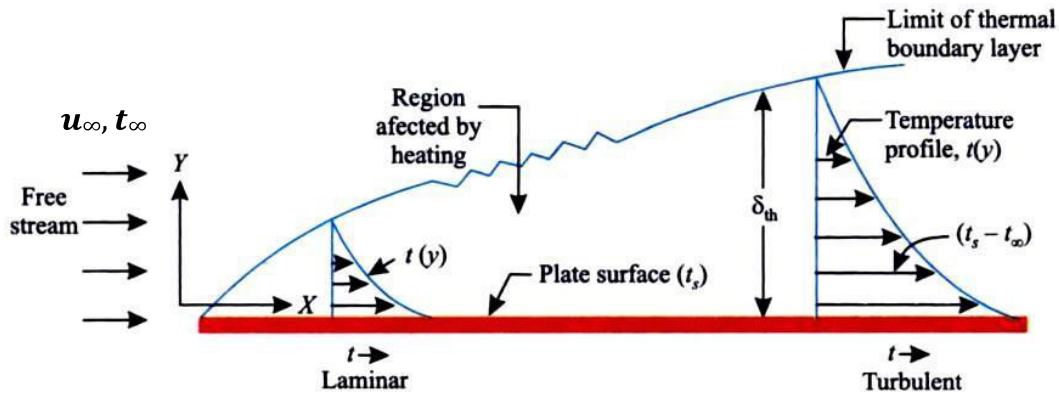

Fig. 7.4 Thermal boundary layer during flow of cold fluid over a warm plate
- Consider the flow of a fluid at a uniform temperature of t_∞ over a hot flat plate at temperature t_s as shown in Fig. 7.4.